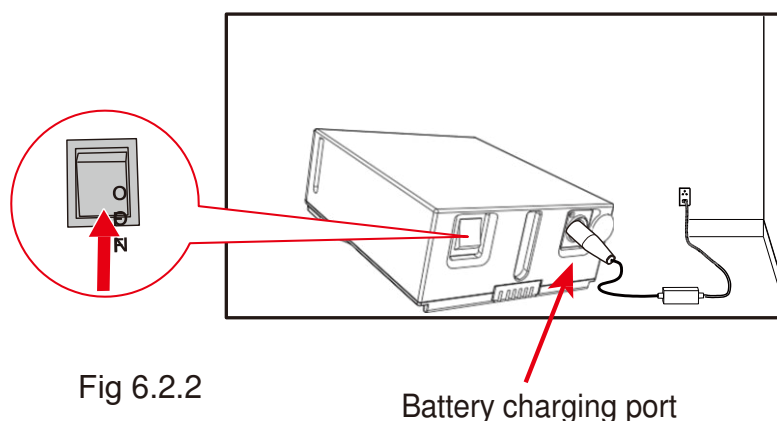

Fig 6.2.2
2. Controller Charging Socket (saves you bending down to plug in charger) (Fig 6.2.2)